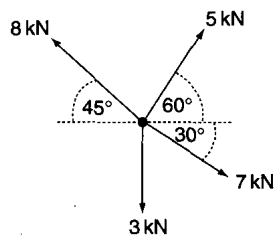

Figure 1.13
2. Determine the magnitude and direction of the equilibrant required for the coplanar force system shown in Figure 1.13.